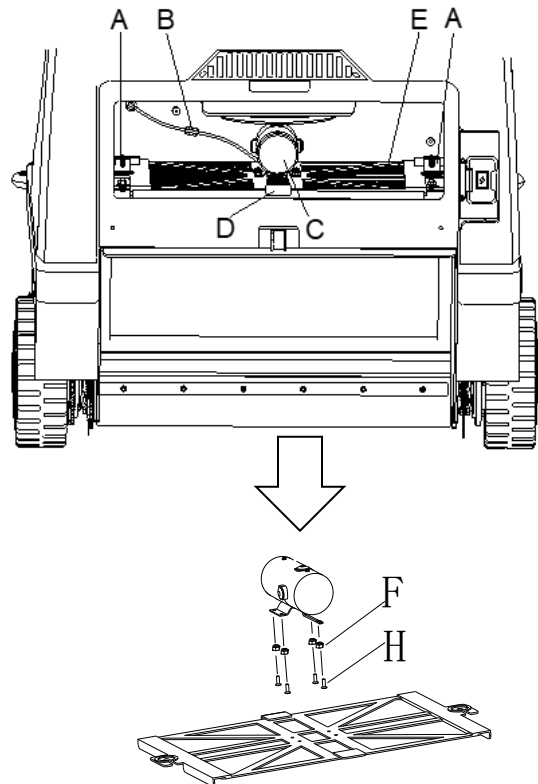

Figure 6
7. Unscrew the knobs (A, Figure 6).
8. Disconnect the filter shaker motor (C, Figure 6) connector (B, Figure 6).
9. Remove the dust filter fixing frame (D, Figure 6).
10. Remove the dust filter (E, Figure 6).
11. Unscrew the screw (F, Figure 6) and nut (H, Figure 6)